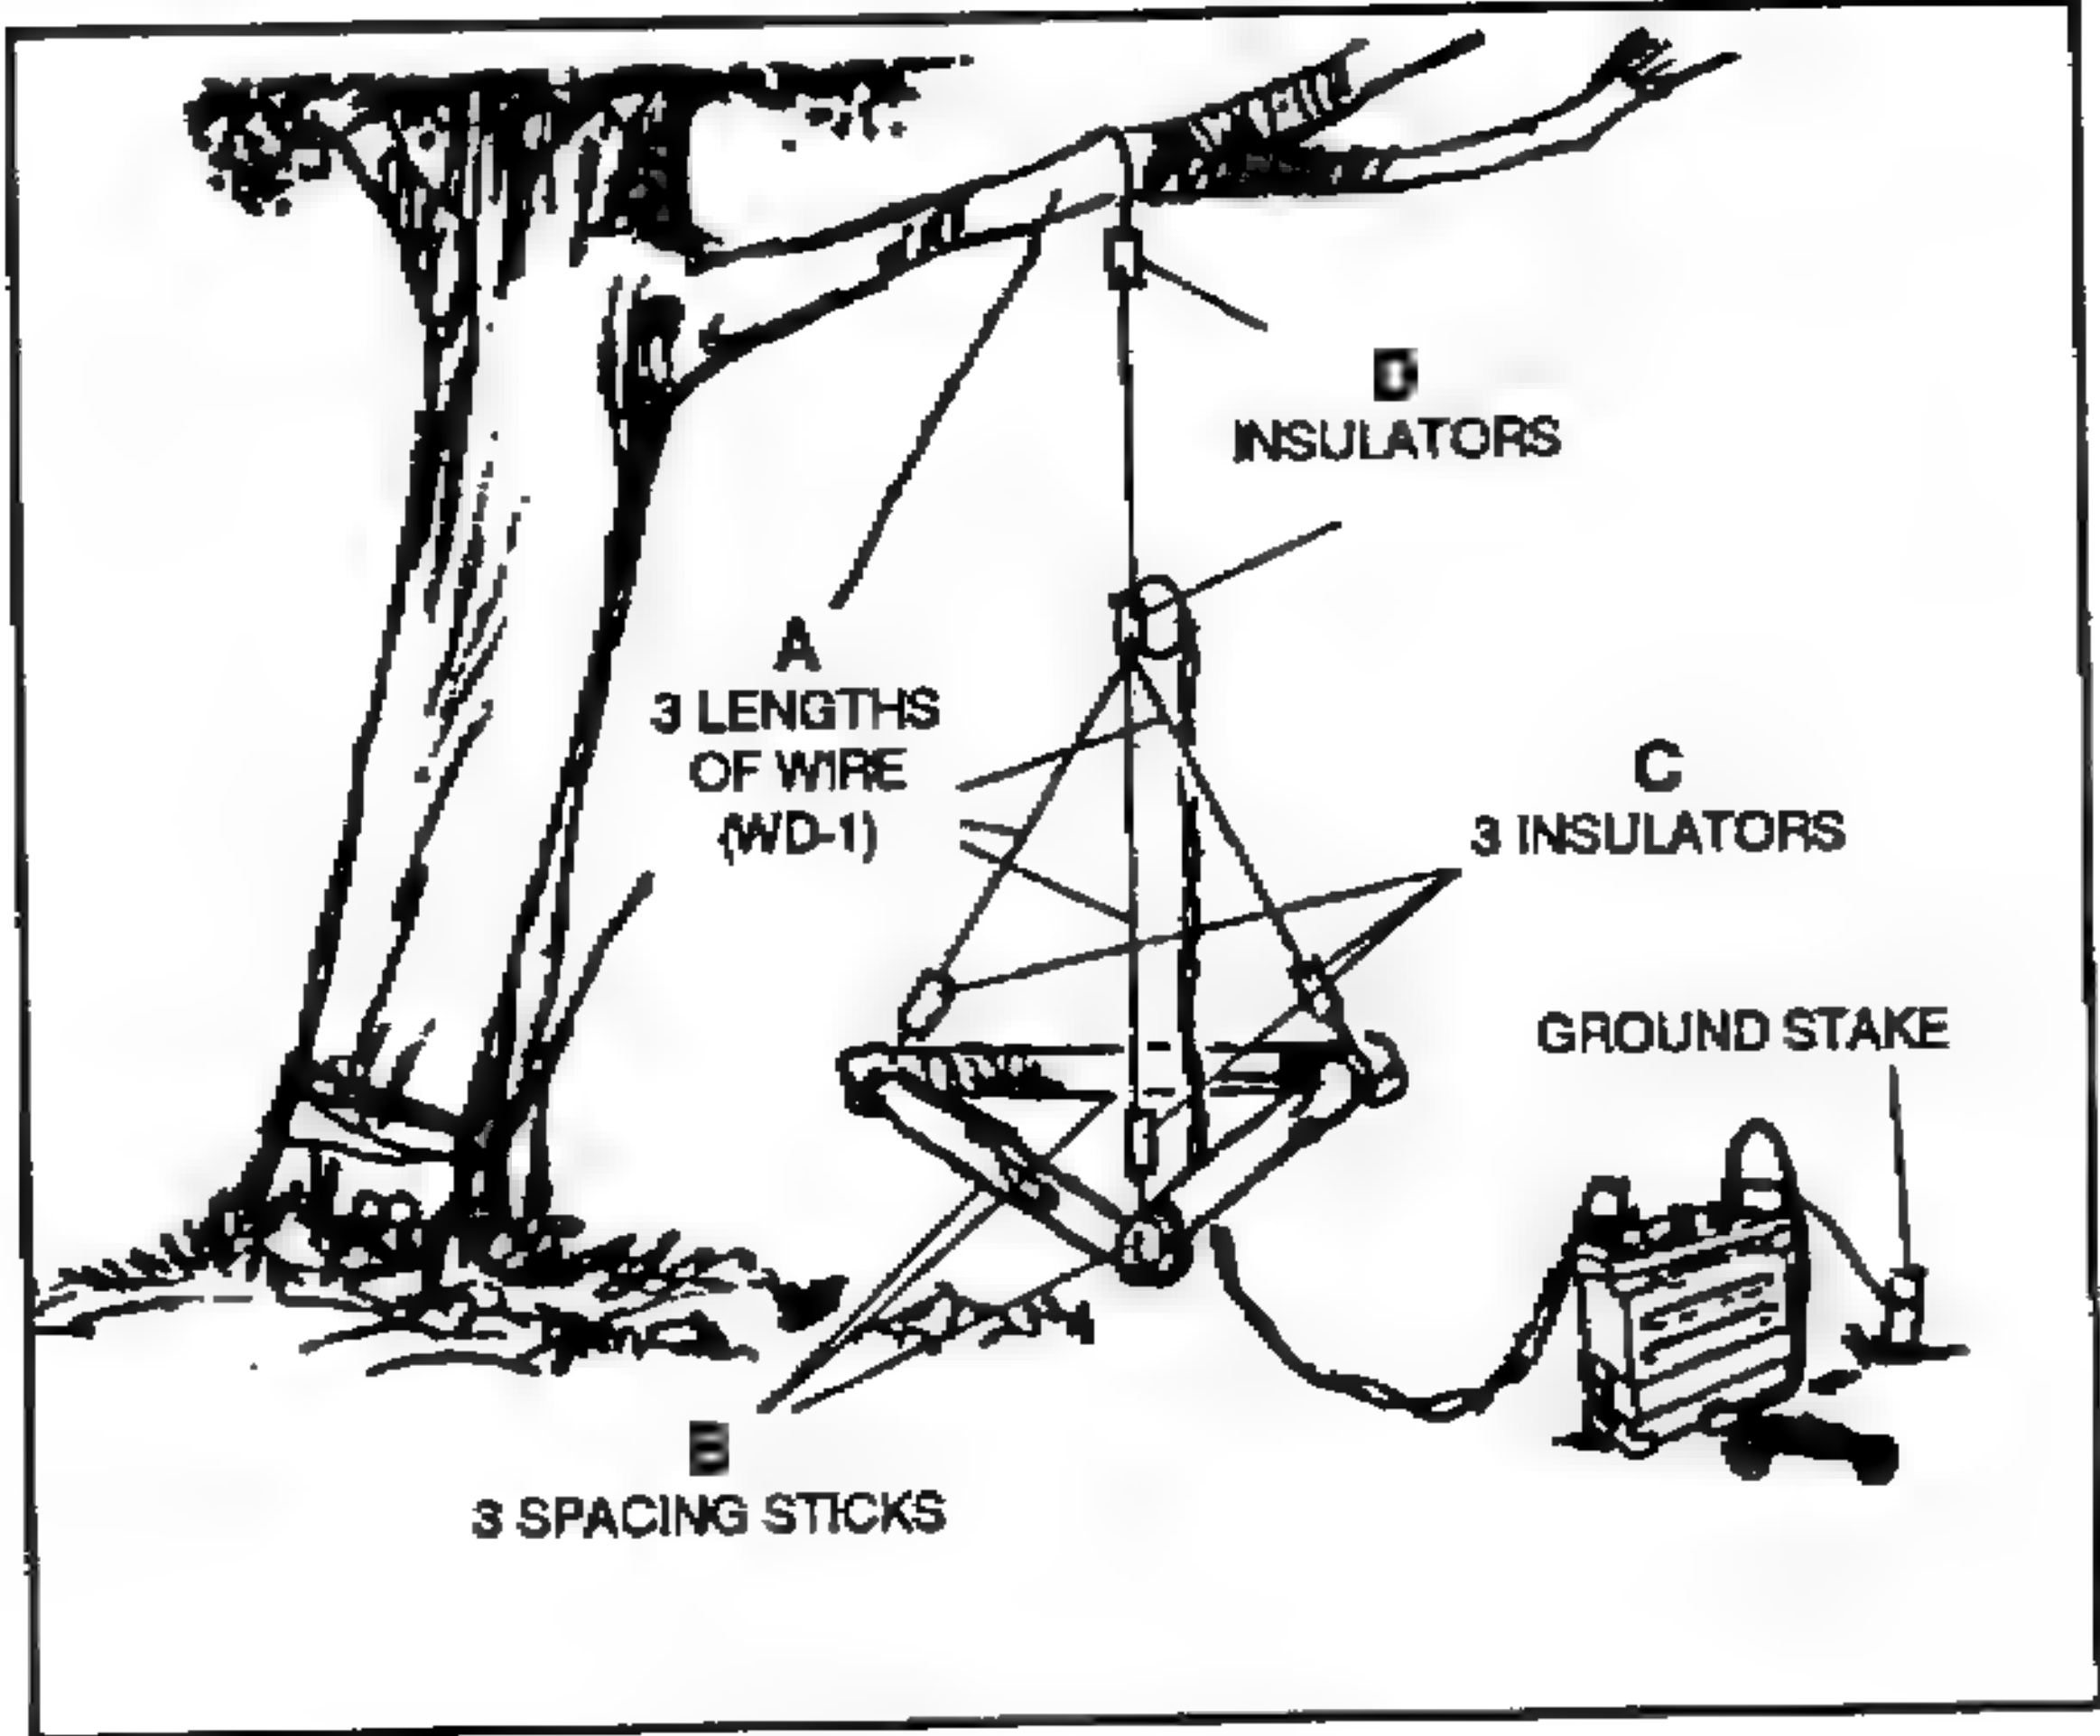

Figure 7-13. Expedient 292-type antenna.
(1) *Expedient 292-type antenna.* The expedient 292-type antenna was developed for use in the jungle and, if used properly, can increase the team's ability to communicate. In its entirety, the antenna is bulky, heavy, and not acceptable for sniper team operations. The team can, however, carry only the mast head and antenna sections, mounting these on wood poles or hanging them from trees; or, the team can make a complete expedient 292-type antenna (Figure 7-13, page 7-18), using WD-1, wire, and other readily available material. The team can also use almost any plastic, glass, or rubber objects for insulators. Dry wood is acceptable when nothing else is available. (See Figure 7-2 for types of insulators that may be used.) The following describes how to make this antenna:
(a) Use the quick-reference table (Table 7-2, page 7-19) to determine the length of the elements (one radiating and three ground planes) for the frequency that will be used. Cut these elements (A, Figure 7-13, page 7-18) from WD-1 field wire (or similar wire). Cut spacing sticks (B, Figure 7-13) the same length. Place the ends of the sticks together to form a triangle and tie the ends with wire, tape, or rope. Attach an insulator to each corner. Attach a ground-plane wire to each insulator. Bring the other ends of the ground-plane wires together, attach them to an insulator (C, Figure 7-13, page 7-18), and tie securely. Strip about 3 inches of insulation from each wire and twist them together.
(b) Tie one end of the radiating element wire to the other side of insulator C and the other end to another insulator (D, Figure 7-13). Strip about 3 inches of insulation from the radiating element at insulator C.